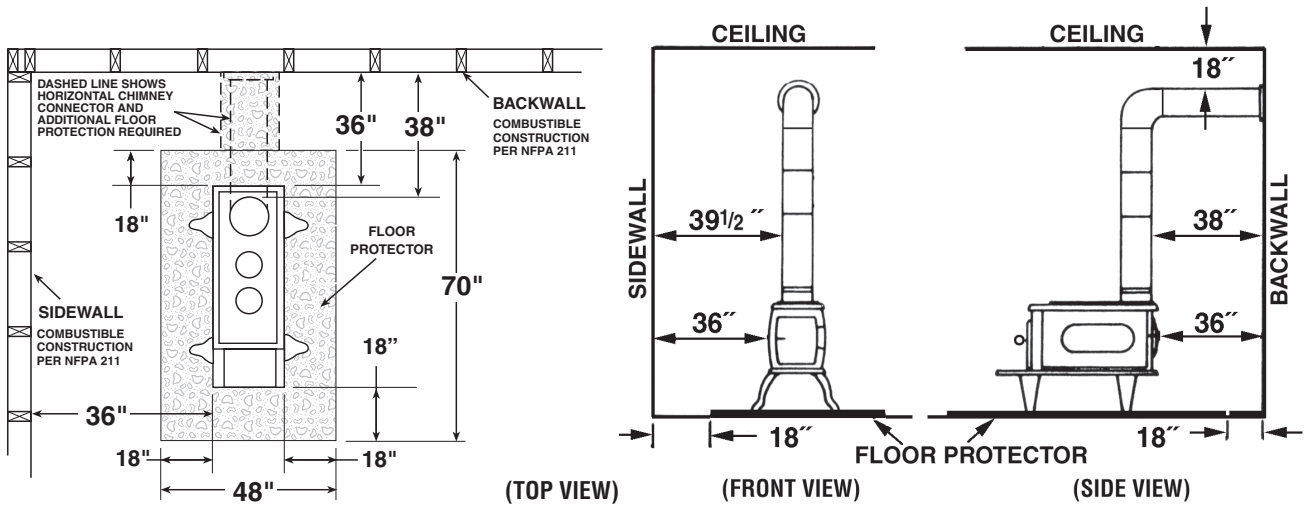

Fig. 1 – Minimum Clearance Dimensions from Combustible Surfaces
1. The stove must be placed on solid concrete, solid masonry, or when installed on a combustible floor, on a listed floor protector, such as Hy-C or Imperial Model UL 4870BK or equivalent. The base must extend at least 18" beyond the front of the hearth, 18" to the sides of the stove, and **must** extend under the stove pipe if it is elbowed towards a wall (see figure 1 and consult local building codes and fire protection ordinances.)
CAUTION: (FIRE HAZARD) CARPETING AND OTHER COMBUSTIBLE MATERIAL MUST NOT COVER THE FLOOR PROTECTOR. THESE MATERIALS MUST REMAIN OUTSIDE OF COMBUSTIBLE CLEARANCES, SEE FIG. 1- 2.
3. After observing the clearances to combustible materials (figure 1 & 2), locate your floor protector accordingly (figure 1) and carefully place the stove in your selected location. Install connector pipe, elbows, and thimble as required, utilizing either a recently cleaned and inspected 6" masonry chimney or a 6" i.d. listed chimney. Maximum 64 square inches.
5. Recheck clearances from the stove, connector stove pipe, and corner clearances using the location drawings (figure 1 & 2) and your local building codes or fire protection ordinances.